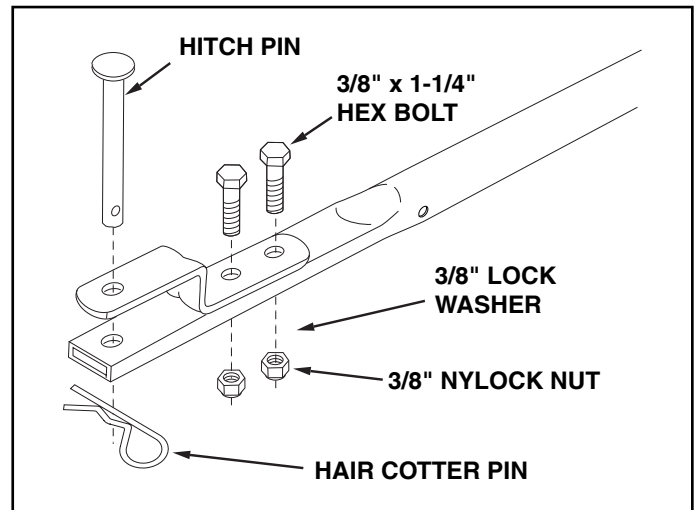

FIGURE 6
13. Assemble the hitch bracket to the top of the hitch tube using two 3/8" x 1-1/4" hex bolts and 3/8" nylock nuts. See figure 6.
14. Assemble the hitch pin through the hitch bracket and the hitch tube and secure with the hair cotter pin. See figure 6.